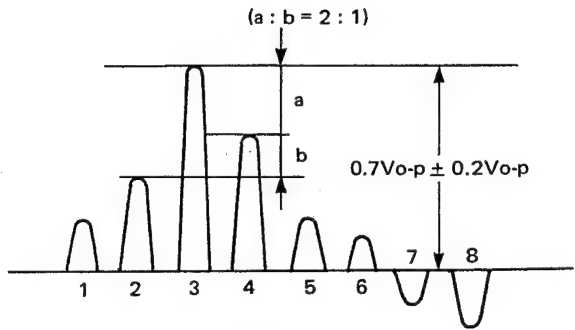

Figure 15
- 2. Confirm that waveform on the oscilloscope is as in figure 15.